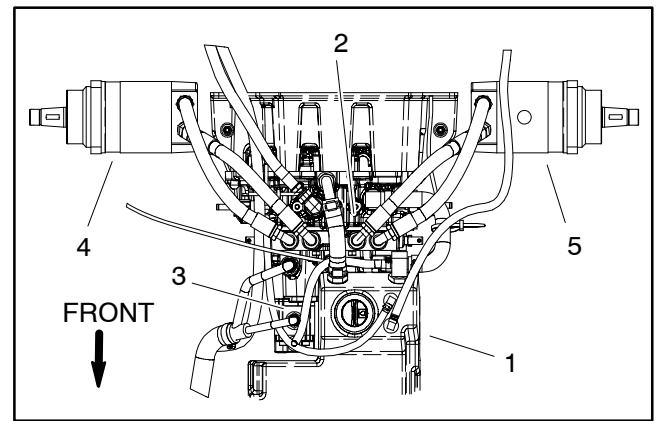

Figure 95
6. Disconnect hydraulic hoses from fittings on the hydraulic tank and gear pump (Fig. 95). Allow hoses to drain into a suitable container. Install clean plugs in hose and fitting openings to prevent system contamination.
10. Remove two (2) cap screws and lock washers that secure gear pump to the transmission.
11. Remove gear pump from transmission. Remove and discard O-ring (item 3). Locate and remove coupler from transmission or gear pump shaft.